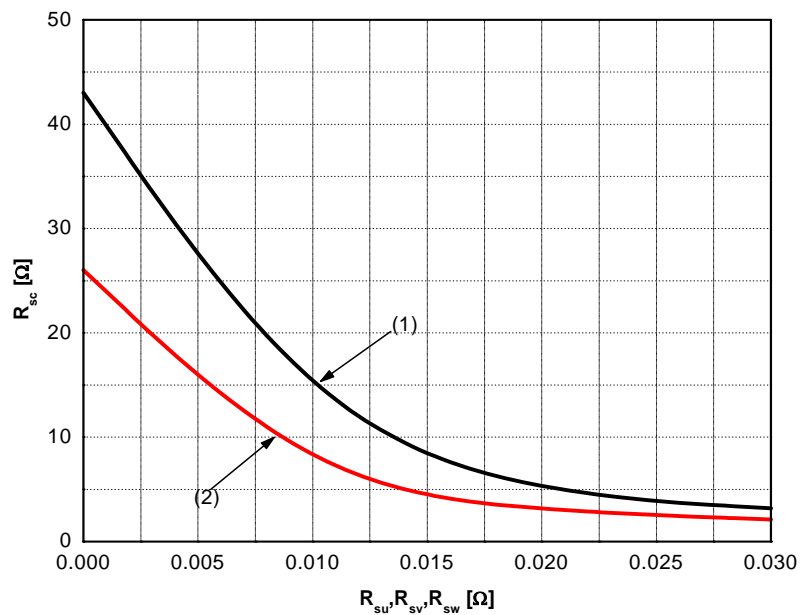

Figure 6. R_{sc} Variation by Change of Shunt Resistors (R_{SU} , R_{SV} , R_{SW}) for Short-Circuit Protection
- Short-circuit protection is functioning only at the low-sides. It would be recommended that the value of the external sensing resistor (R_{SC}) should be selected around 26 Ω in order to make the SC trip-level of about 100A at the shunt resistors (R_{SU}, R_{SV}, R_{SW}) of 0 Ω. For the detailed information about the relationship between the external sensing resistor (R_{SC}) and the shunt resistors (R_{SU}, R_{SV}, R_{SW}), please see Figure 6.